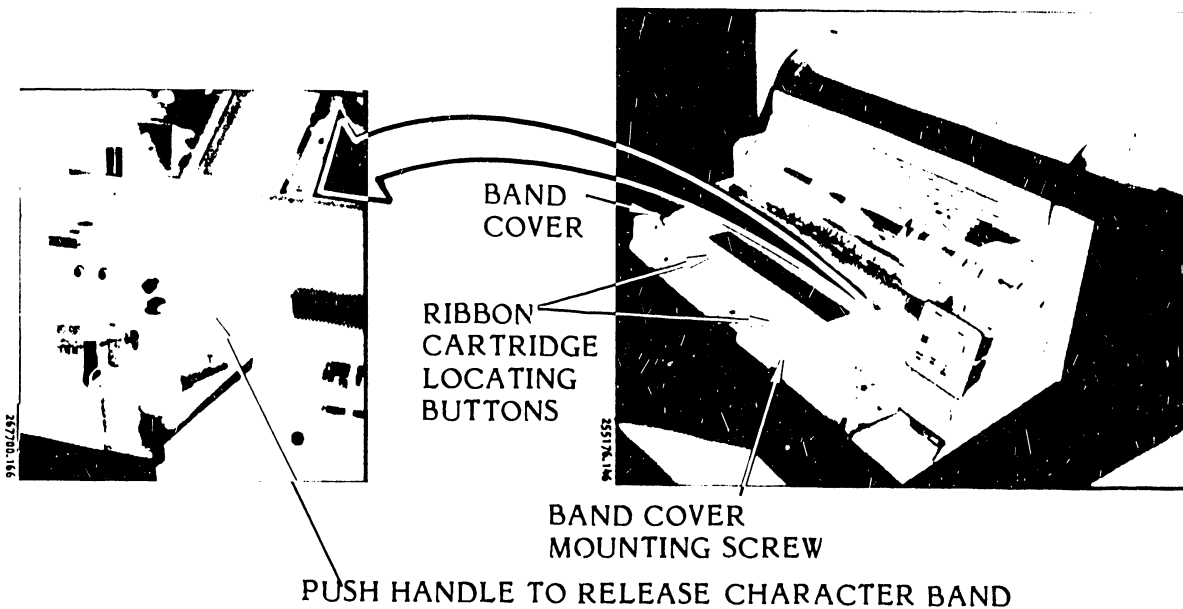

Figure 3-32. Band Cover Adjustment
3.6.1 Band Cover Assembly Adjustment (Figure 3-32)